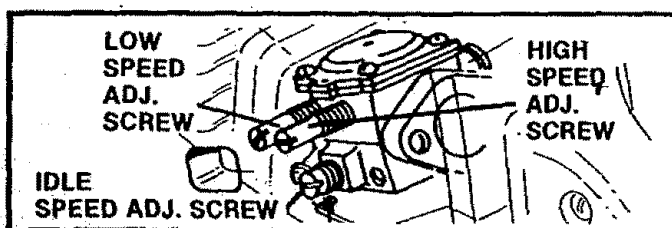

Figure 52
- Locate the three (3) carburetor adjusting screw openings to the right of the air filter cover. Figure 52.